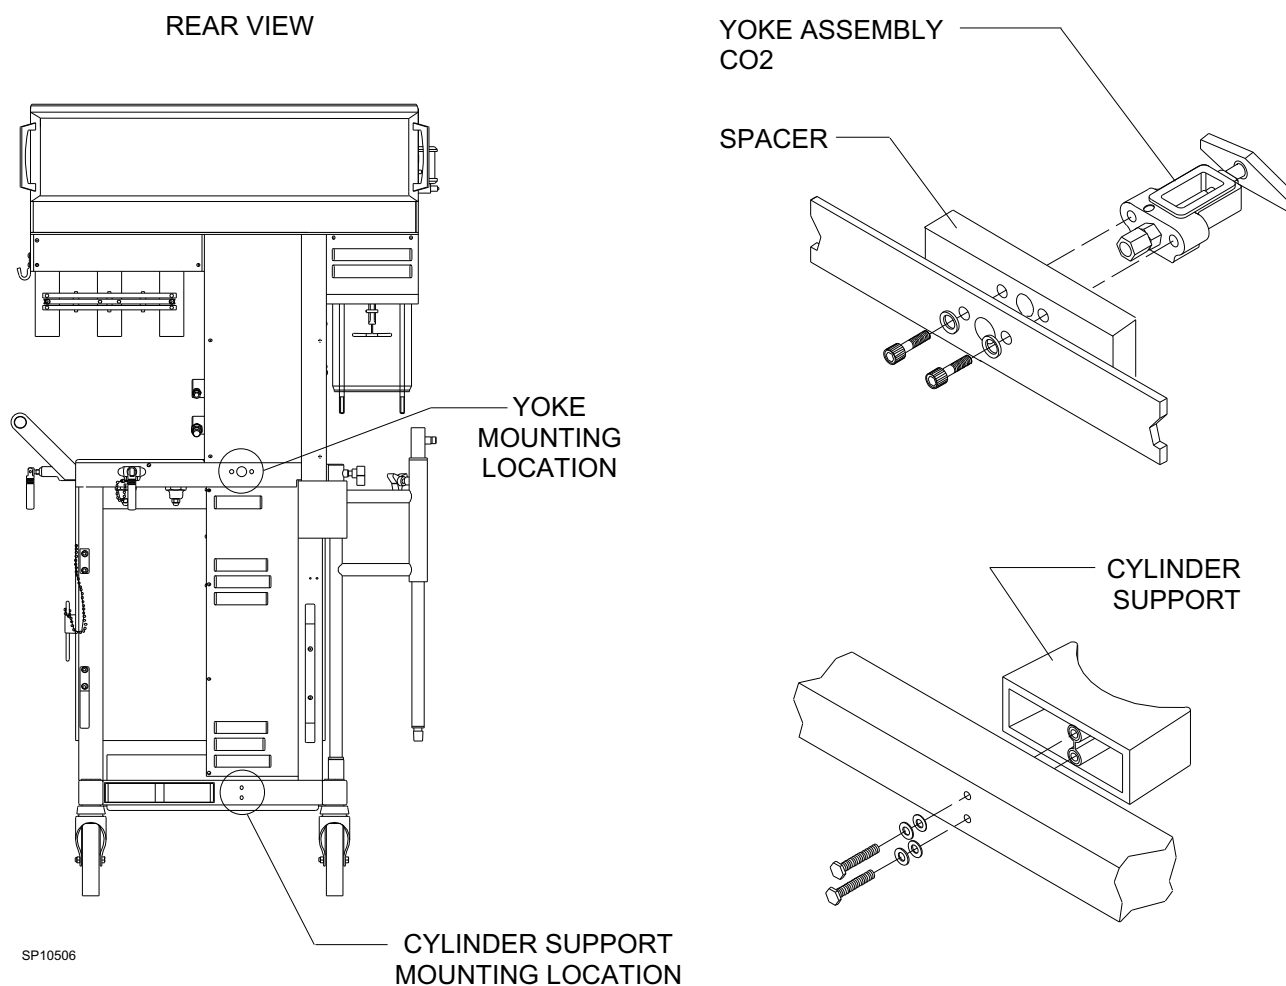

**Figure 5: FOUR GAS MANIFOLD ASSEMBLY WITH LABELS**
53. Assemble the compression fittings onto the open ended tubes on the 4-gas manifold assembly (consisting of P/Ns 4108483, 4109408 x4, 4109410, 4110834-009 x3, and 4110837-013 x2) as shown in Figure 5. Ensure that the Swagelok fittings with the two-piece ferrules are assembled as shown in Figure 4.
Insert the copper tubes into the manifold assembly as shown in Figure 5. Before tightening the compression nuts, ensure that the tubing is inserted into the fittings as far as possible.
54. Attach the copper tubes on the manifold assembly on the ports at the top of the flowmeter bank as shown in Figure 5. Ensure that the tubing is inserted into the fittings as far as possible, and tighten the compression nuts.
55. Attach the correct gas-identifying label (P/N 4109871, 4109872, 4109873, 4109874, and 4109901) to each tube on the manifold assembly as shown in Figure 5.